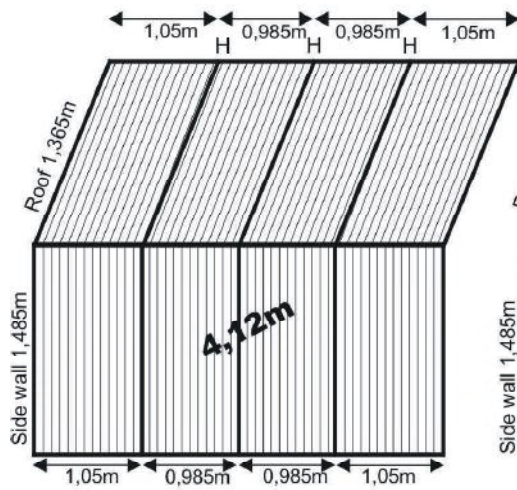

Fig. 21.3
4.12 m length: 1.05+0.985+0.985+1.05 m (Fig. 21.3)